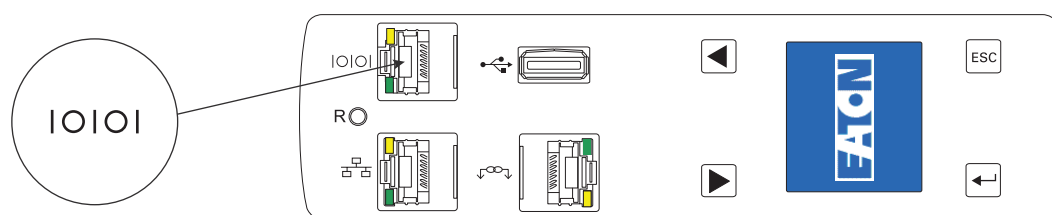

Figure 23. Connecting to a Computer Serial Port
3. Connect the RJ-45 end of the cable to the RS-232 connector on the front panel of your ePDU model (see Figure 23). Connect the DB9 end of the cable to the serial connector on the computer.